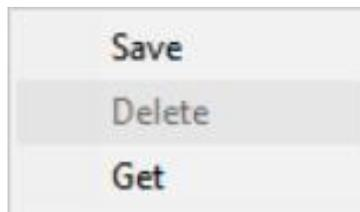

Figure 4-144
- 3) Right-click the image area to pop up the menu (Figure 4-144).